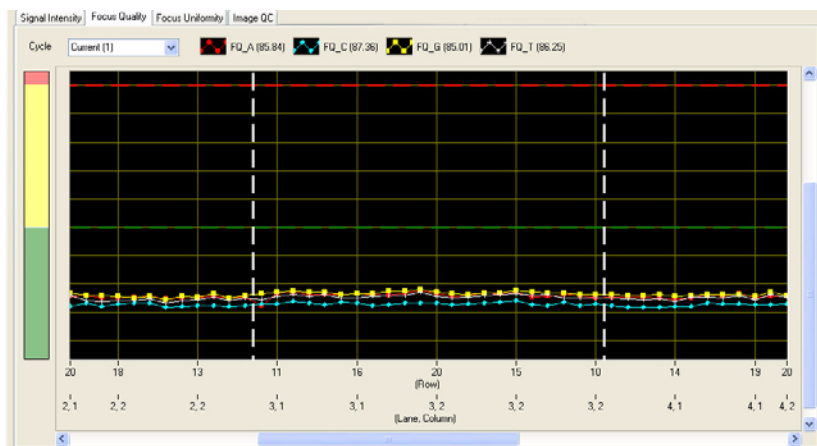

Figure 103 Zoomed in view Analysis Viewer
- ▶ **Zoom in** by holding the Shift key down, left-clicking and dragging the mouse to select an area and then releasing the mouse key. See Figure 103 for a zoomed in view of an area from roughly the middle of the red region through the middle of the green region and from lane 2, column 1, row 20 through lane 4, column 2, lane 20.